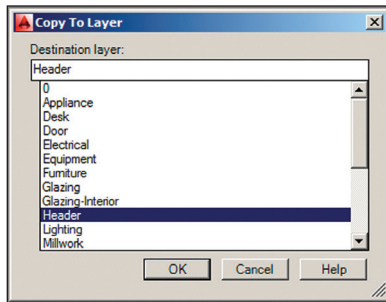

FIGURE 6.15 Selecting a layer in the Copy To Layer dialog box
- Click Name on the command line. The Copy To Layer dialog box appears (see Figure 6.15). Select Header from the Destination Layer list, click OK, and press Enter.